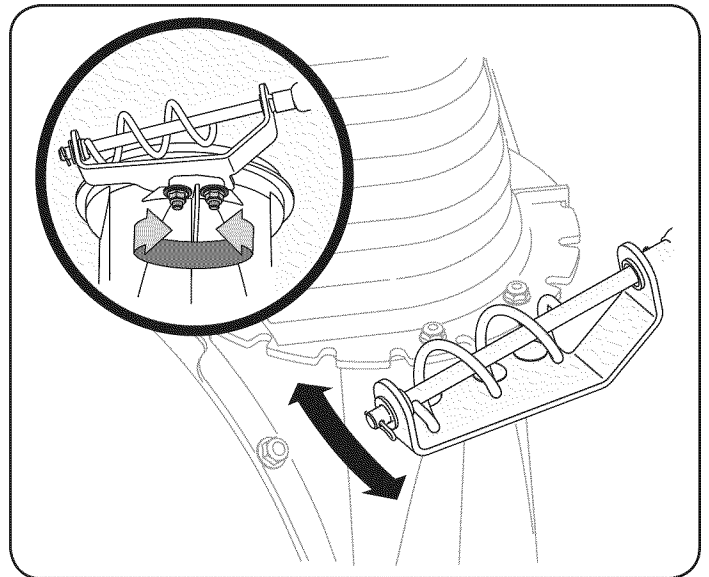

Figure 26
1. Loosen the two nuts which secure the chute bracket and reposition it slightly. See Figure 26.